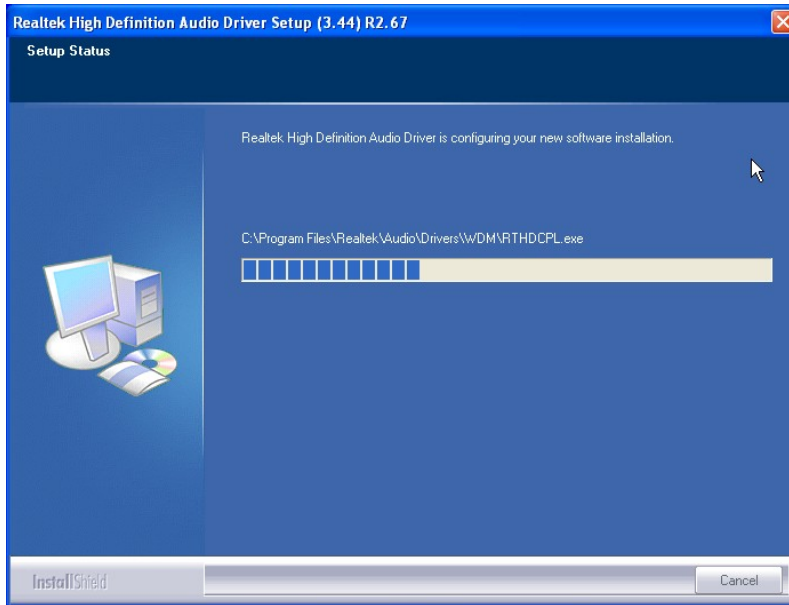

Figure 6-21: Audio Driver Software Configuration
Step 7: InstallShield starts to install the new software as shown in **Figure 6-21**.